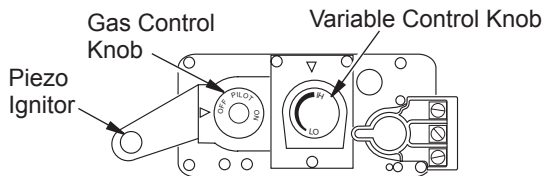

Figure 50 - Control Valve
5. Wait five (5) minutes to clear out any gas. Then smell for gas, including near the floor. If you smell gas, **STOP!** Follow "B" in the safety information above. If you don't smell gas, go to the next step.
7. Turn gas control knob counterclockwise to "PILOT" (see Figure 50, page 25).